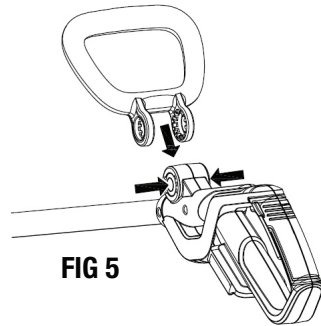

FIG 5
2. Install the front handle onto the button base as shown in Fig 5.